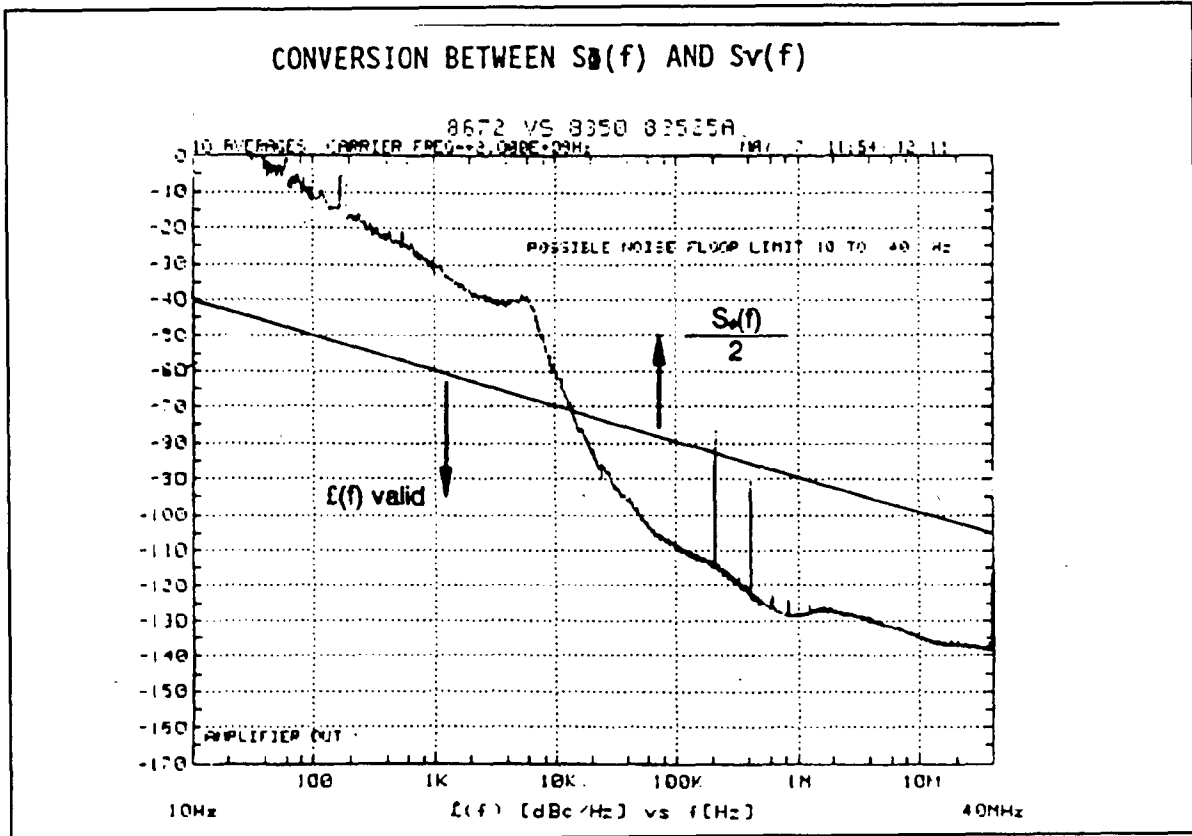

Figure 2-3. $S_{\phi}(f)/2$: 1/2 Spectral Density of Phase Fluctuation
Other than $S_\phi(f)$, the instability of a signal may also be represented with a plot of the spectral density of frequency fluctuations, $S_\nu(f)$. As illustrated below $S_\nu(f)$ is equal to $f^2 \times S_\phi(f)$ because $\nu(t)$ is the derivative of $\phi(t)$. These two graphs are from the same data with figure 2-3 a square root of $S_\nu(f)$. The graph of the square root of $S_\nu(f)$ indicates the power spectral density of the frequency modulation (FM) noise on the signal. Such a measurement of the spectral density of the FM noise versus the offset from the carrier is be very useful in the design of an FM system.